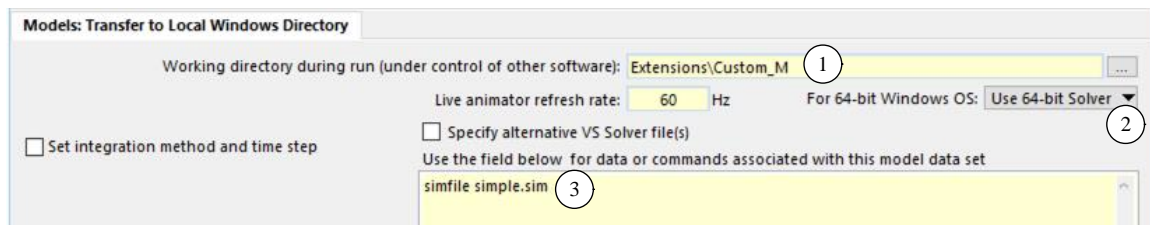
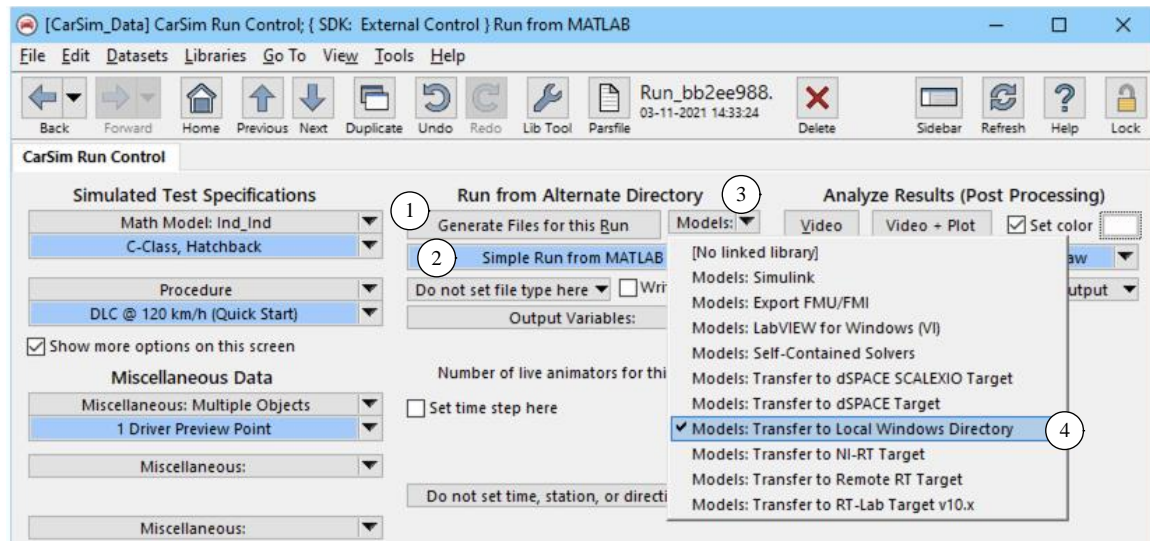

Figure 6. Specify the folder containing MATLAB files.
Figure 7. Link to the library Models: Transfer to Local Windows Directory.
When running from MATLAB, the working directory will be the folder containing the MATLAB M file. Therefore, the Simfile should be written to the folder containing the M file. This is specified using a dataset from the library **Models: Transfer to Local Windows Directory** (Figure 6). The linked dataset should identify the folder containing the MATLAB file ①. In the same dataset, use the drop-down control for choosing a 32/64 bit solver ② to match your version of MATLAB. The examples shipped in VehicleSim products also specify a custom Simfile name, using the keyword `simfile` ③. For the examples in which no extensions are made to the VS Math Model, the Simfile is named `simple.sim`.
To use these settings, a link is made from the **Run Control** screen (Figure 7) to the dataset in the library **Models: Transfer to Local Windows Directory** ④, selected with the **Models** drop-down control ③. The linked dataset ② is the one shown in Figure 6. Generate the files for the MATLAB program by clicking the button **Generate Files for this Run** ①.